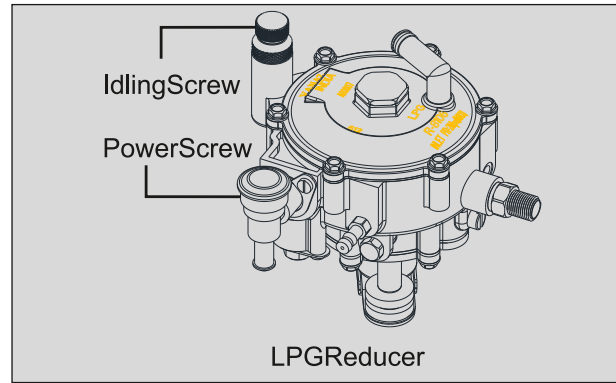

Fig. 2.43
- Remove the power screw cap. Tighten the power screw fully. (Fig. 2.43)
- Loosen the lock nut from the LPG reducer idling screw. (Fig. 2.43)